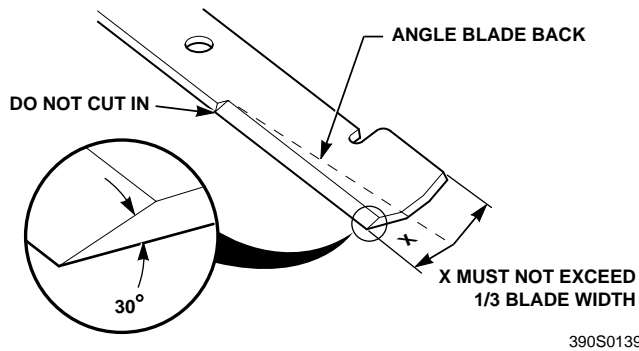

Figure 7-9 Blade Sharpening
DO NOT sharpen the blades beyond 1/3 of the width of the blade. See Figure 7-9, Page 33.
1. Sharpen the cutting edge at the same bevel as the original. See Figure 7-9, Page 33. Sharpen only the top of the cutting edge to maintain sharpness.